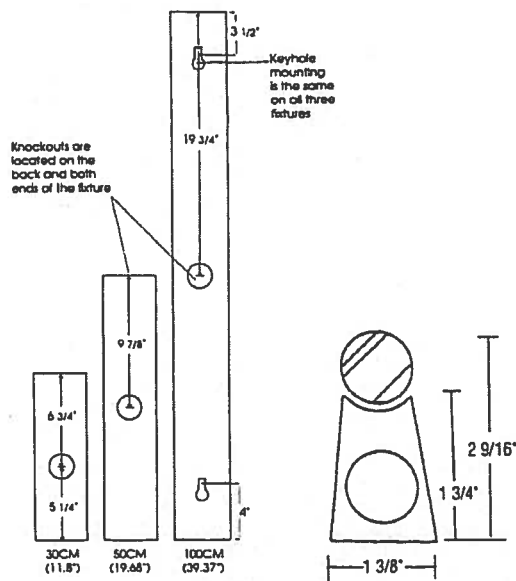

Fig. 1
- Mount fixtures only to surfaces that are mechanically sound throughout the entire length. Use the keyhole slots provided on the back of the fixture (Fig. 1). Do not use adhesives of any kind.